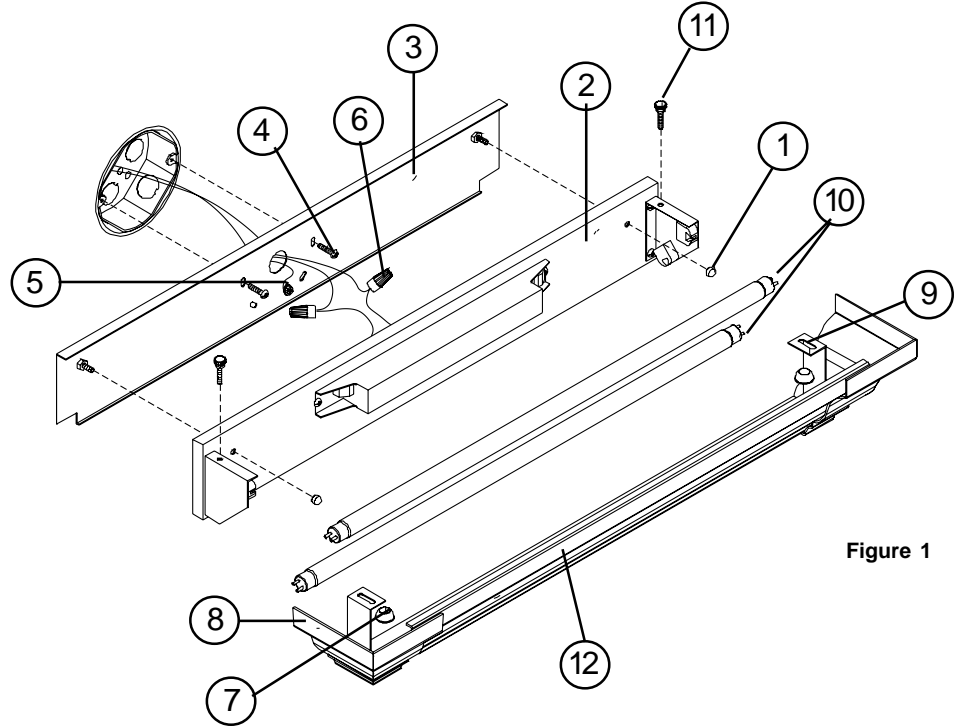

Figure 1
1. **Remove fixture components and parts pack(s).** Check that all parts are included. **See Fig. 1.**
2. **Unscrew the two Knurled Nuts** (1) securing the Wireway Cover Assembly (2) to the Mounting Bracket (3). **See Fig. 1.**
5. **Use Wirenuts (6) to connect** white supply wire to the white fixture wire, then connect the black supply wire to the black wire from the fixture. For proper connection, place Wirenut over wires, twist clockwise until tight. Tuck wires into junction box.
6. **Install the Wireway Cover** (2) to the Mounting Bracket using the two Knurled Nuts (1). Note: Ballast to be at the top of the Wireway Cover. **See Fig. 1.**